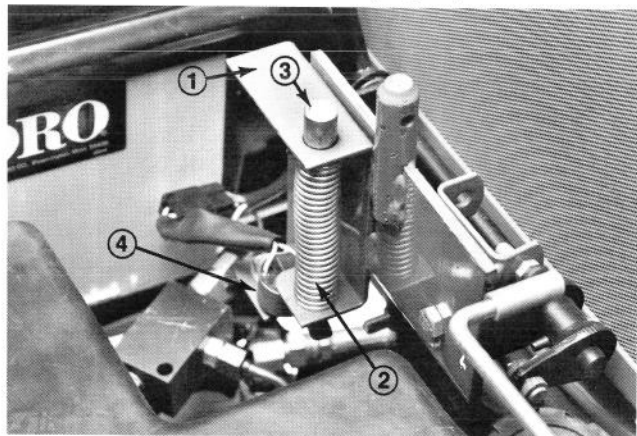

Figure 7
1. (Model 30741 only) Remove (4) flange screws and (2) locknuts securing sealing plate to frame, over fuel tank. Remove sealing plate.
3. Insert pin part way into hole in top of seat support bracket on machine (Fig. 7).
7. Remove seat switch from shipping bracket and mount to seat support bracket using same fasteners (Fig. 7). Connect switch connector to main wire harness connector (Fig. 7).
1. (Model 30741 only) Remove (4) flange screws and (2) locknuts securing sealing plate to frame above fuel tank. Remove sealing plate.
2. Remove roll pin securing spring and pin to seat support bracket shipped with seat kit. Remove spring and pin. (Fig. 7)